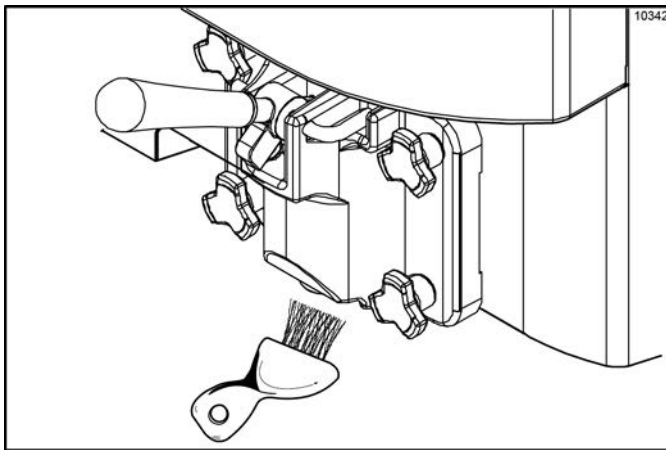

Figure 6-71
**Note:** To ensure sanitary conditions are maintained, brush each item for a total of 60 seconds, repeatedly dipping the brush in cleaning solution. (See Figure 6-71.)